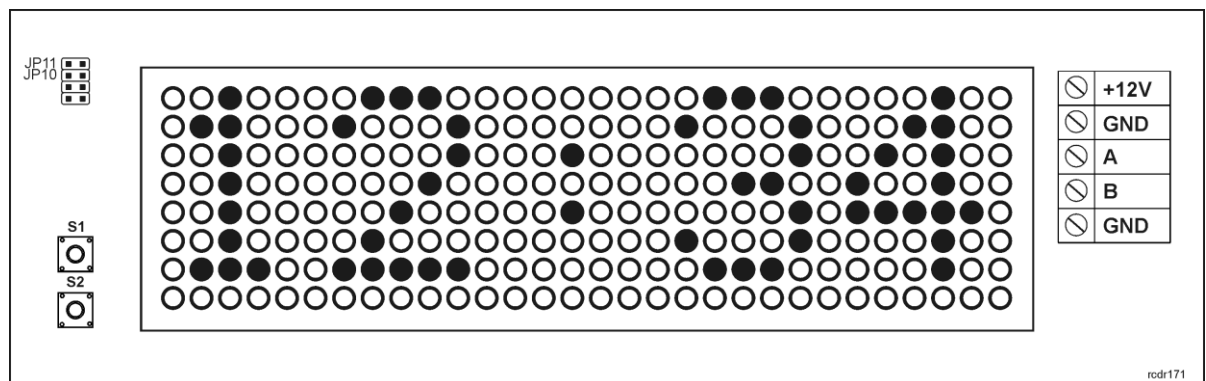

Fig. 1 ASCD-1 display
- Press S1 button (fig. 1) for a few seconds with power supply connected till configuration mode is started.
ASCD-1 can be used to display text uploaded through RS485 bus. RUD-1 or UT-2USB communication interfaces can be used to upload string directly from computer with any RS232 terminal installed (e.g Termite). The parameters of communication are 9600bps, 8N1, handshake. ASCII (20h..7Eh) characters and Polish characters in UTF-8 format are accepted. Any string uploaded to ASCD-1 must be finished with CR LF characters (0Dh, 0Ah). When the string is correctly received and displayed then ASCD-1 replies with OK text (4Fh, 4Bh). When the message is longer than 5 segment matrix then it is smoothly scrolled. The maximal length of string is 32 characters. Maximal number of characters can be limited and scrolling speed configured with RogerVDM software and RUD-1 interface. The ASCD-1 can be used to display text only if in LCD mode and with jumper placed on JP10 pins (fig. 1). The device is ready for operation when it displays Terminal text.